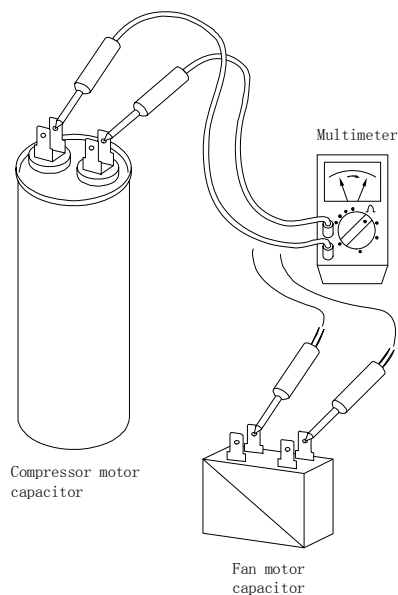

Fig. 3
- 1) Remove the lead wires from the capacitor terminals, and then place a probe on the capacitor terminals as shown in Fig.3.